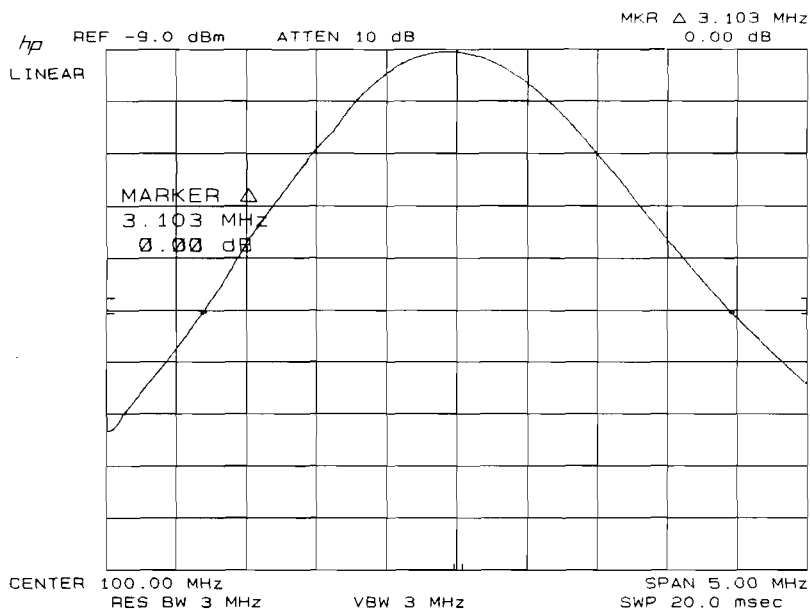

Figure 4-1. Resolution Bandwidth Measurement
7. Press MARKER **(Δ)** and position movable marker 6 dB down from the signal peak on the negative-going edge of the trace (the MARKER Δ amplitude readout should be $.00\text{ dB} \pm 0.05\text{ dB}$). The 6 dB bandwidth is given by the MARKER Δ frequency readout. (See Figure 4-1.) Record this value in Table 4-1.